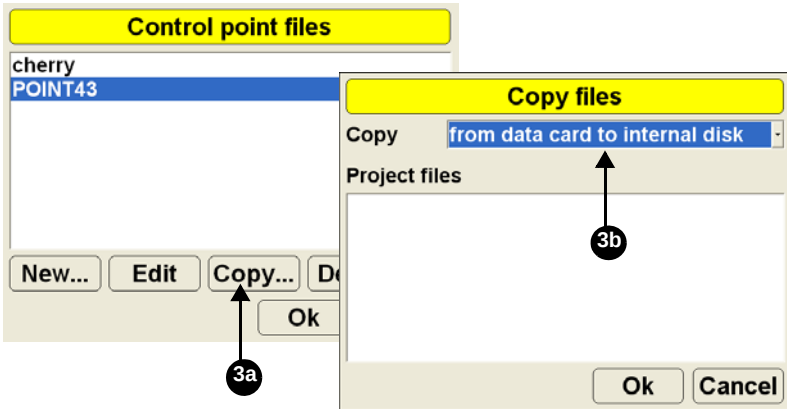

Figure 3-1. Copying File to the GMU (Internal Disk)
2. When the 3DMC main screen displays, navigate to the desired file type dialog box (Figure 3-1 on page 3-2 shows an example of copying a control file).
- Press **Copy** and select the location of the file to copy from the *Copy* drop-down list (Figure 3-1), either “from data card to internal disk” or “from internal disk to data card”.